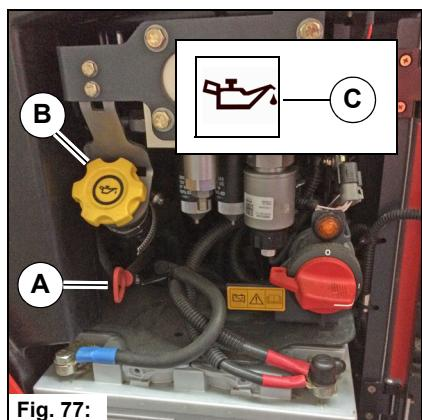

Fig. 77:
Check the engine oil level with the dip stick **Fig. 77-A**. Refill with engine oil if required. To do this, open the cap **Fig. 77-B**. Filling volume/Specification, see Technical data on page 103.
If the warning symbol **Fig. 77-C** appears, there is a risk of engine damage. Immediately switch the engine off and check the engine oil level.
- If the engine oil pressure warning symbol **Fig. 77-A** in the multifunctional display lights up with the engine running, there is a risk of engine damage! Stop the vehicle in the safe range. Turn the engine off immediately and check the oil level. Have the cause of the inadequate engine oil pressure removed.